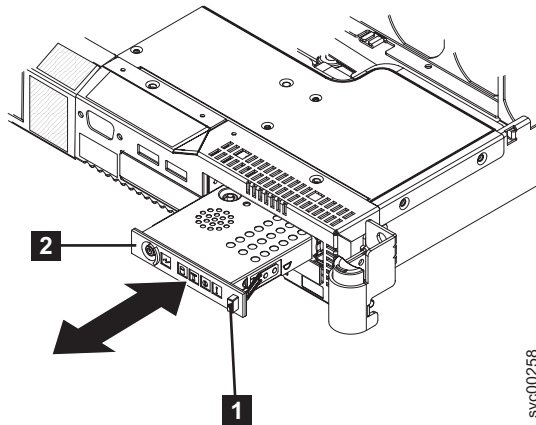

Figure 220. SAN Volume Controller 2145-8G4 operator-information panel
2. Slide the operator-information panel into its cage, as shown in Figure 220 on page 234, until it locks in place with a click (in the In position); gently pull the cable through at the back as you do this.